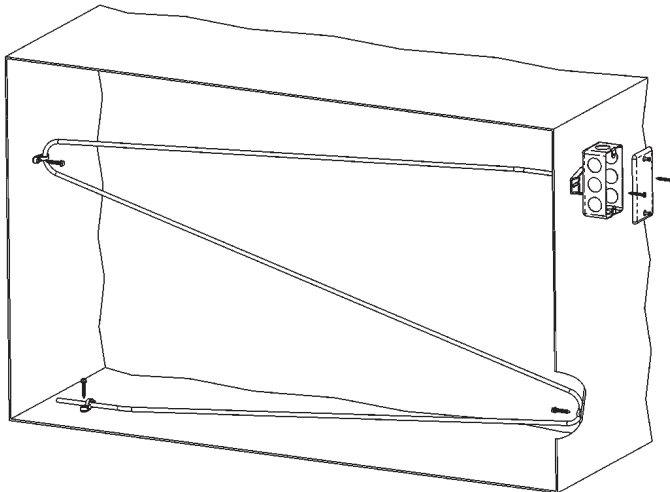
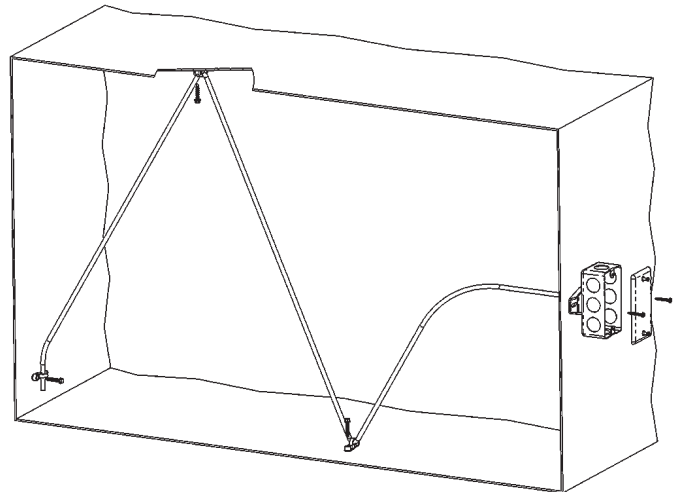

Fig 7: Averaging Sensor Horizontal Mount. Best for Vertical Stratification.
Fig 8: Averaging Sensor Vertical Mount. Best for Horizontal Stratification.
1. Place the sensor in the middle or top of the duct as shown in Fig. 7 or Fig. 8 so the flexible probe can enter the duct in a convenient place. Drill the probe and mounting holes as depicted for the enclosure being used. (**Handy Box, BB, BB2, WP, EU**).
3. Mount the enclosure to the duct using BAPI recommended #8 screws through a minimum of two opposing mounting tabs provided. Weatherproof (WP) enclosures will require assembly of the mounting tabs on opposite corners. A 1/8 inch pilot screw hole in the duct makes mounting easier through the mounting tabs. Use the enclosure tabs to mark the pilot hole locations.